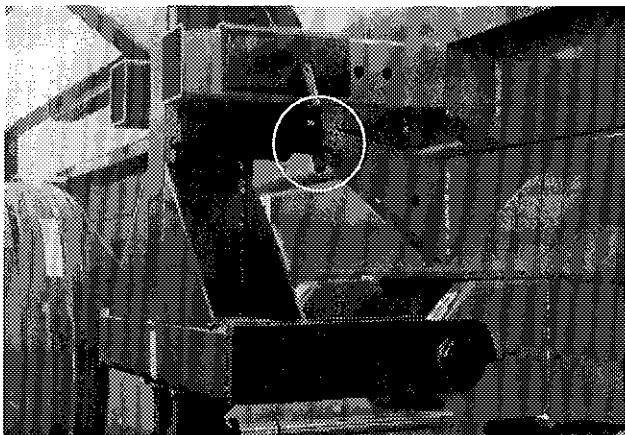

Figure 10
- 5) When not in use, always lock the loading arms with the pin provided. (Figure 10, page 9)
- 1) Lock the loading arms with the pin provided. (Figure 10, page 9)
- 8) Operate all hydraulic functions in order to purge the system. **Do not forget to remove the pin locking the loading arm in the upright position (Figure 10) and assure there is no one within 10 feet of the loading area.**